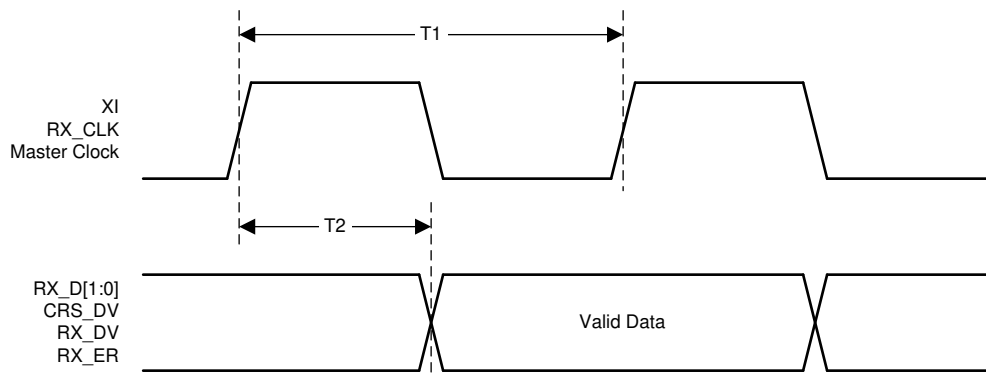

Figure 7-10. RMIIT Receive Timing
(1) Ensured by production test, characterization or design.
(2) See Figure 7-10.